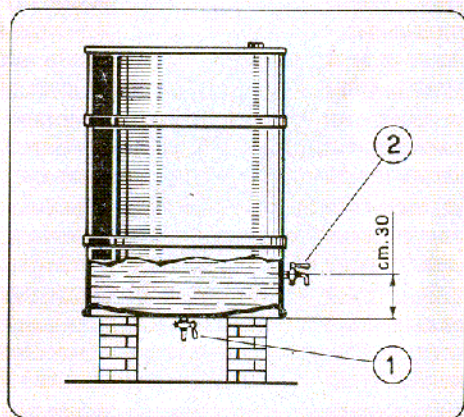

Fig. 4 - FUEL DECANTATION DRUM
- c) A rather sound method for the fuel « decantation » is shown in fig. 4. Of the two cocks the metallic drum is equipped with, cock n. 1 shall be used only to periodically drain impurities. The purified fuel shall be drawn from cock n. 2.